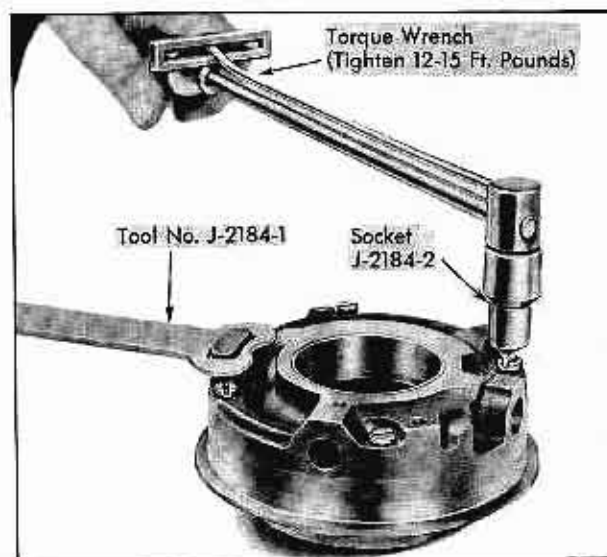

Fig. 14-48 Disassembling Front Pump
2. Hold front pump assembly with Tool J-2184-1 and remove four screws and washers, using screwdriver socket J-2184-2. Fig. 14-48.